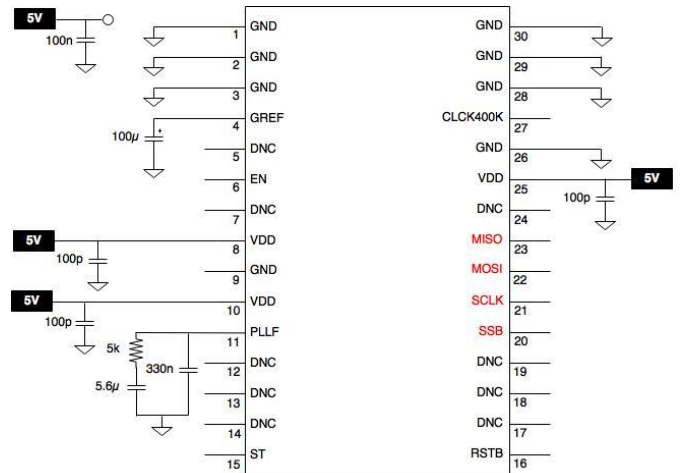

Figure 17: Recommended Application Schematic (top view)
- All capacitances of Figure 17 should be placed as close as possible to their corresponding pins, except the 100nF capacitance between VDD and GND, which should be as close as possible to the board's supply input.